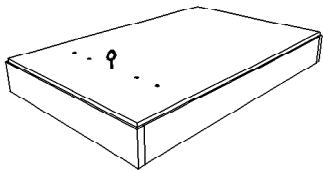

fig 7
5. Fit the screw eye which is taped to the operating rod to the lid 60mm in from the opening end, midway across the width (figure 7).